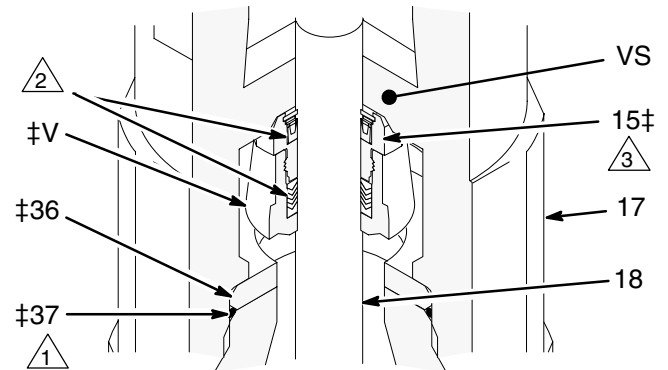

Fig. 5
6. Unscrew the intake housing (17) from the cylinder (10). Pull the housing off the pump. The intake check valve assembly (V, see Fig. 5) should slide down the priming piston rod (18) as you remove the housing; if it does not slide easily, firmly tap on the top of the housing (17) with a rubber mallet to loosen.
7. Pull the intake seat (36) and seal (37) out the bottom of the intake housing (17). Take care not to drop the valve assembly (V) as it comes free. See Fig. 5.
1. Slide the intake housing (17) onto the priming piston rod (18), making certain that the smooth surface of the valve stop (VS) is facing down toward the pump intake. Screw the housing (17) onto the cylinder (10). See Figs. 5 and 6.
2. Lubricate the priming piston rod (18), then slide the preassembled intake valve (V‡) onto the rod, making certain that the packing nut (15‡) goes on the rod first. Push the valve assembly up the rod as far as possible. Use a rubber mallet on the priming piston rod (18), to drive the valve assembly up to the stop (VS). See Figs. 5 and 6.
3. The intake seat (36‡) is reversible. Push it into the housing (17) until it seats securely. Lubricate the seal (37‡) and install in the bevel around the bottom of the seat. See Fig. 5.
- △3 Intake check valve (see Fig. 5).